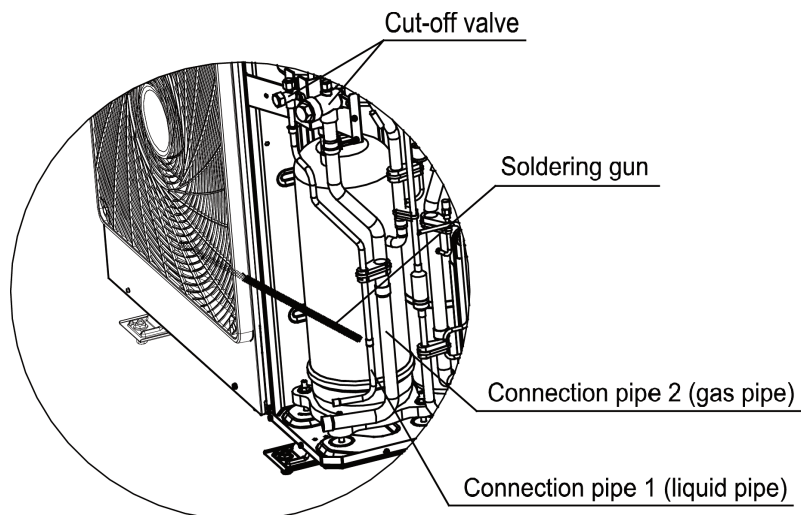
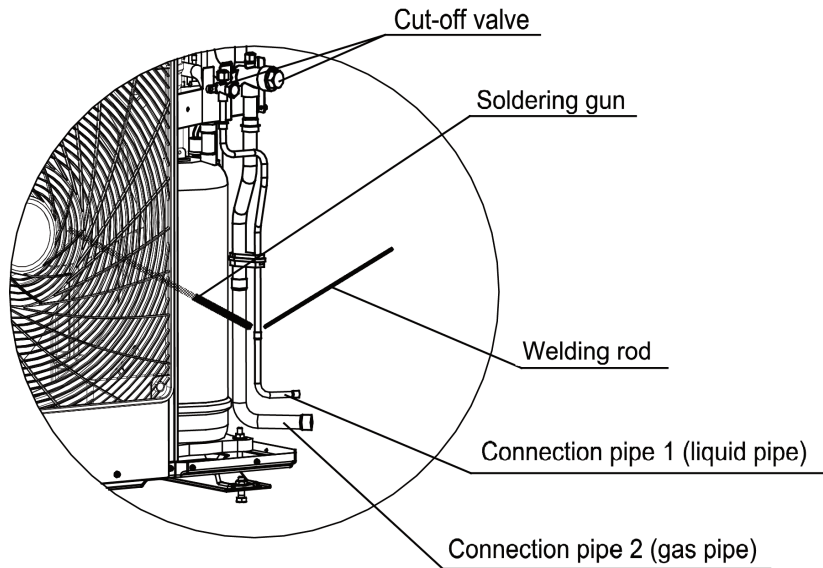

Fig.4.15
Fig.4.16
- 2) If connection pipe is connected at the side as shown in Fig.4.15 and Fig.4.16, open the front side plate, rear side plate and connection board. Then open the soundproof cotton. Use a soldering gun to unsolder connection pipe 1 and connection pipe 2. Rotate them to a proper angle and install them to their respective position. Seal the apertures with welding rod. First weld connection pipe 1 (liquid pipe) and then weld connection pipe 2 (gas pipe). During welding, it's necessary to use wet gauze to wrap up the filter near connection pipe 2 and the two cut-off valves. Make sure the flame won't burn the soundproof cotton or other components.